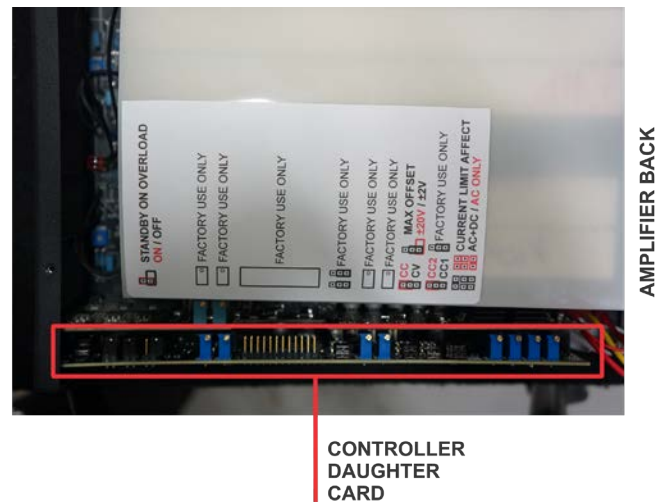

Figure 6.11 – Controller Board Location
2. Locate the 7100 Controller card as shown in **Figure 6.11**.